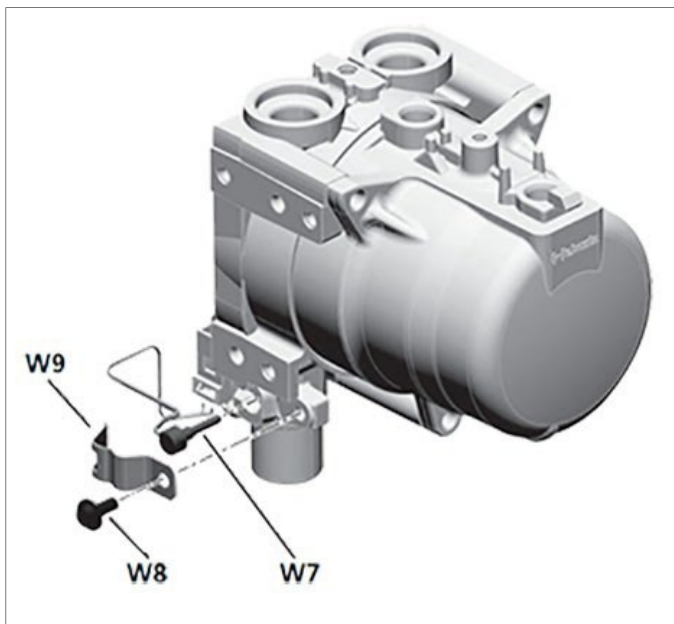

Fig. 922 Removing exhaust temperature sensor
1. Mount exhaust temperature sensor (W7, Fig. 922) in hole on exhaust pipe of heat exchanger.
2. Lay cable (W10) in groove on exhaust pipe and fasten retaining spring (W9) with screw (W8, Fig. 922). Tightening torque 35 in-lb $\pm$ 10% (4 Nm $\pm$ 10%).